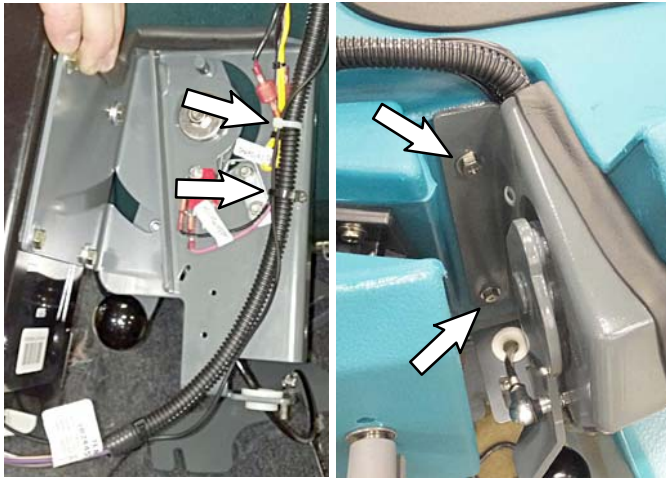

FIG. 8
8. Route the telemetry harness and antenna cable as shown and secure harness with cable-ties (6) (FIG. 8).
9. Install new bracket assembly to machine using existing hardware (FIG. 8).